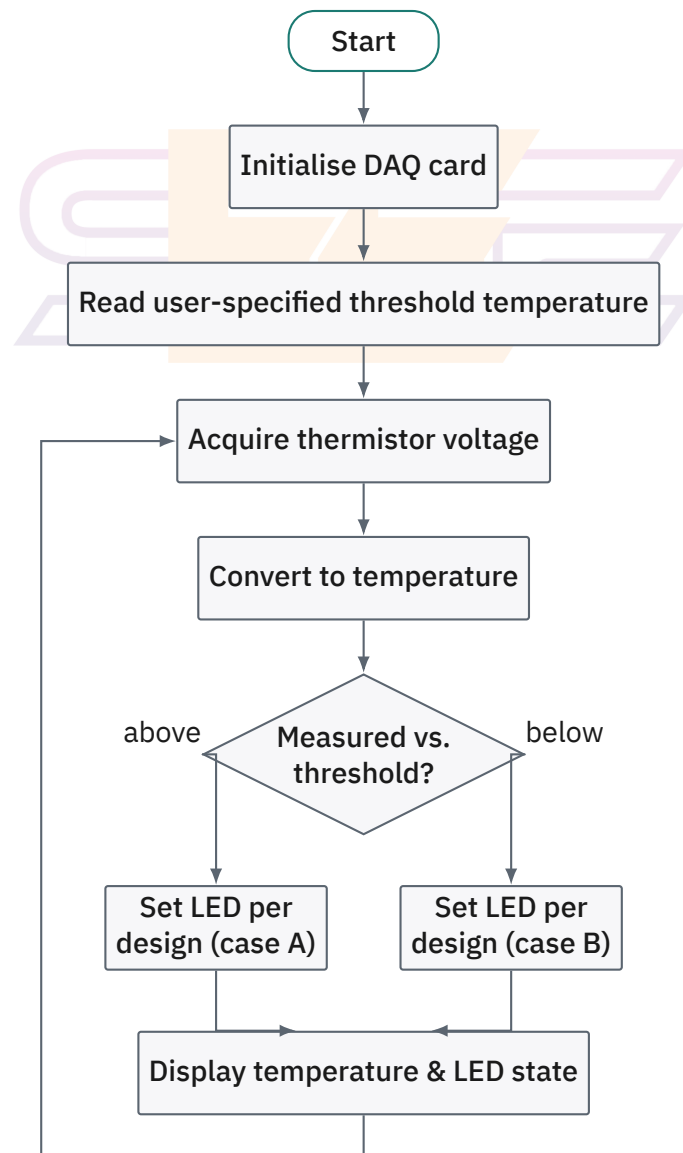

Figure 8.2: Temperature monitoring and LED control loop (ON/OFF direction per student design).
3. Use the flowchart in Figure 8.2 as a starting point for your control logic, adapting the ON/OFF branch to match your chosen design.